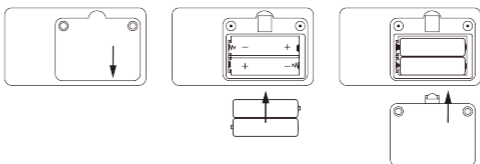

Figure 3. Batteries Installation
- A. Refer to Figure 3. Use a screwdriver to unscrew the two screws from the battery compartment on the back of the product and open the back cover of the battery compartment.